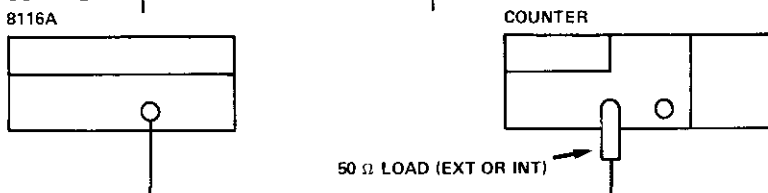

Figure 4-1. Test Setup for Frequency, Burst and Sweep
1. Connect equipment as shown in Figure 4-1.
3. Use Figure 4-1 test setup and set counter to START.
4. Press 8116A's MAN button and verify that counter now displays the set number (816) of output cycles. (5345A reading will be 815, since first pulse arms the counter).